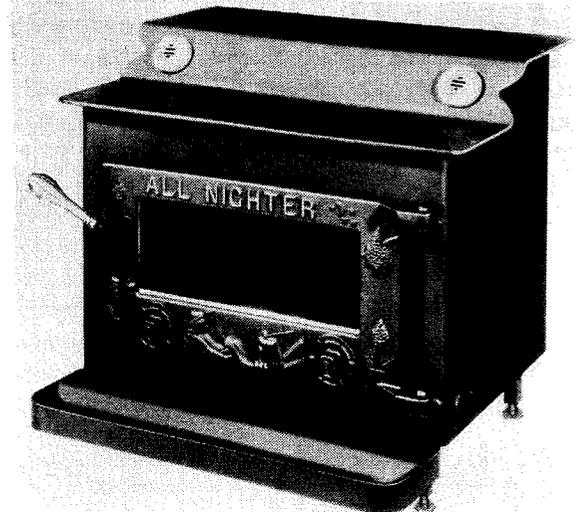

Fig. 38. All Nighter Stove Works' Giant Moe freestanding fireplace.
2. **All Nighter Stove Works, Inc.** (manufacturer), 80 Commerce St., Glastonbury, CT 06033. Giant Moe (Fig. 38) and Jumbo Moe were introduced in early-1978, and specifications were not available at presstime.